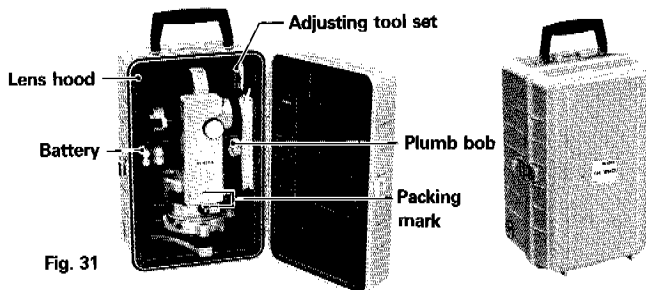

Fig. 31
3. Insert the instrument correctly into the case with the yellow dots towards you. (Fig. 31)
- Insert the accessories as shown in Fig. 31.